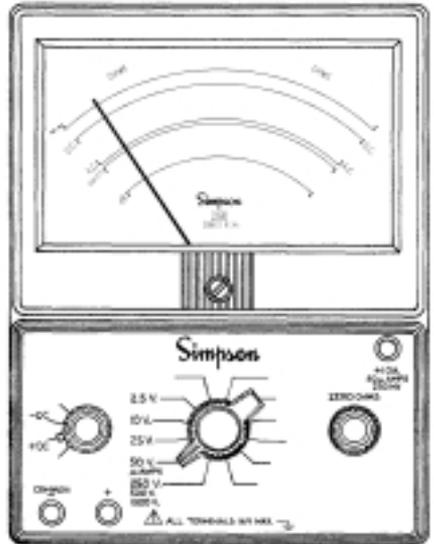

Figure 4-1. Jacks and Switch Positions for Measuring DC Voltages, 0-250V Ranges
- Set the function switch at +DC (Figure 4-1).
- a. Set the function switch at +DC (Figure 4-1).